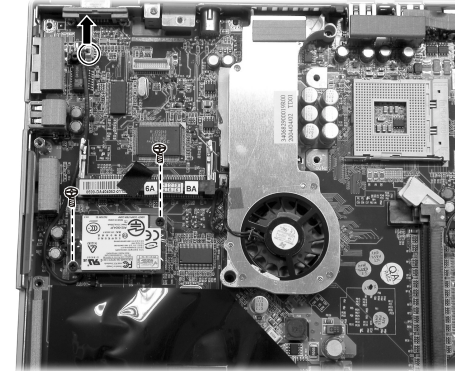

Figure 2-15 Free the Modem Card
5. Disconnect the cable and remove the two screws. (Figure 2-15)